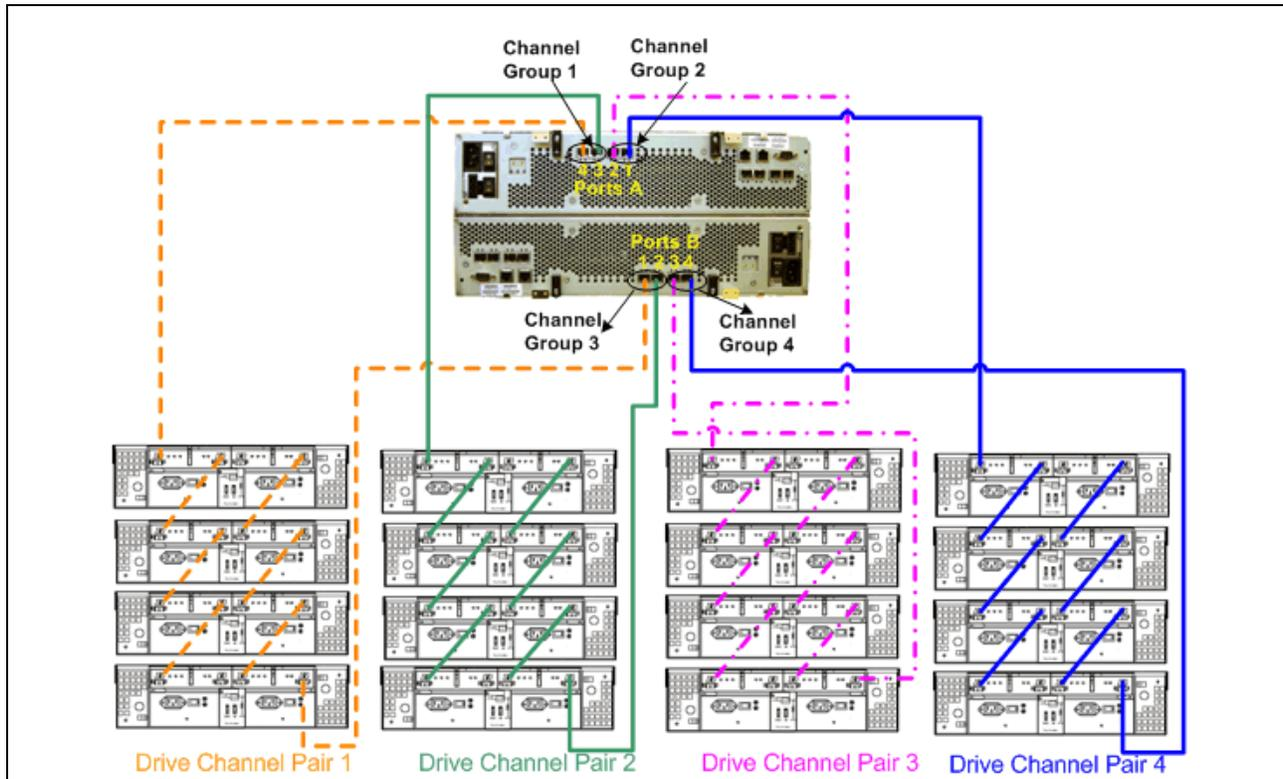

Figure 3-51 Fully optimized DS4800 with 16 EXP710s attached
The DS4800 can attach up to 16 EXP100 (SATA) or EXP710 (FC), or 14 EXP810(FC). It also fully supports an intermix of the FC and SATA enclosures to allow users maximum flexibility for customizing storage solutions. It is generally best to spread enclosures evenly among the four drive channel pairs as you scale up your DS4800 in storage capacity. This allows you to fully utilize the maximum drive-side bandwidth. A fully configured DS4800 should have four expansion enclosures on each drive-side channel pair. Figure 3-51 shows a fully configured DS4800 with 16 EXP710s attached.
In this example, the DS4800 is cabled using all four drive channel pairs, assuming that there are 16 total expansion enclosures evenly spread out across the drive channel pairs (four each). See Figure 3-51 on page 65 for the schematic.
This procedure illustrates the DS4800 cabling according to IBM best practices and should visually appear as in Figure 3-51 on page 65.